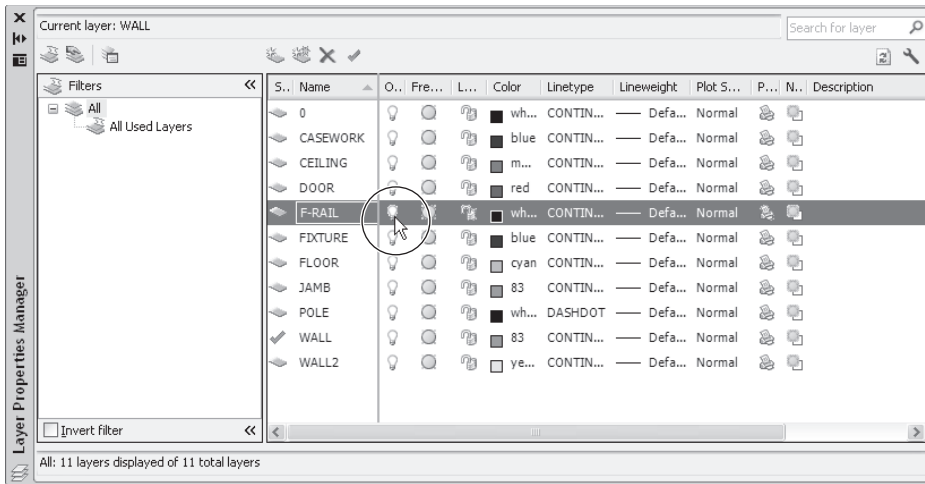

Figure 7.10
3. In the selected layer listing, click the lightbulb icon, as shown in Figure 7.10. The lightbulb icon changes from yellow to gray to indicate that the layer is off. All the objects on the layer you selected in step 2 disappear.